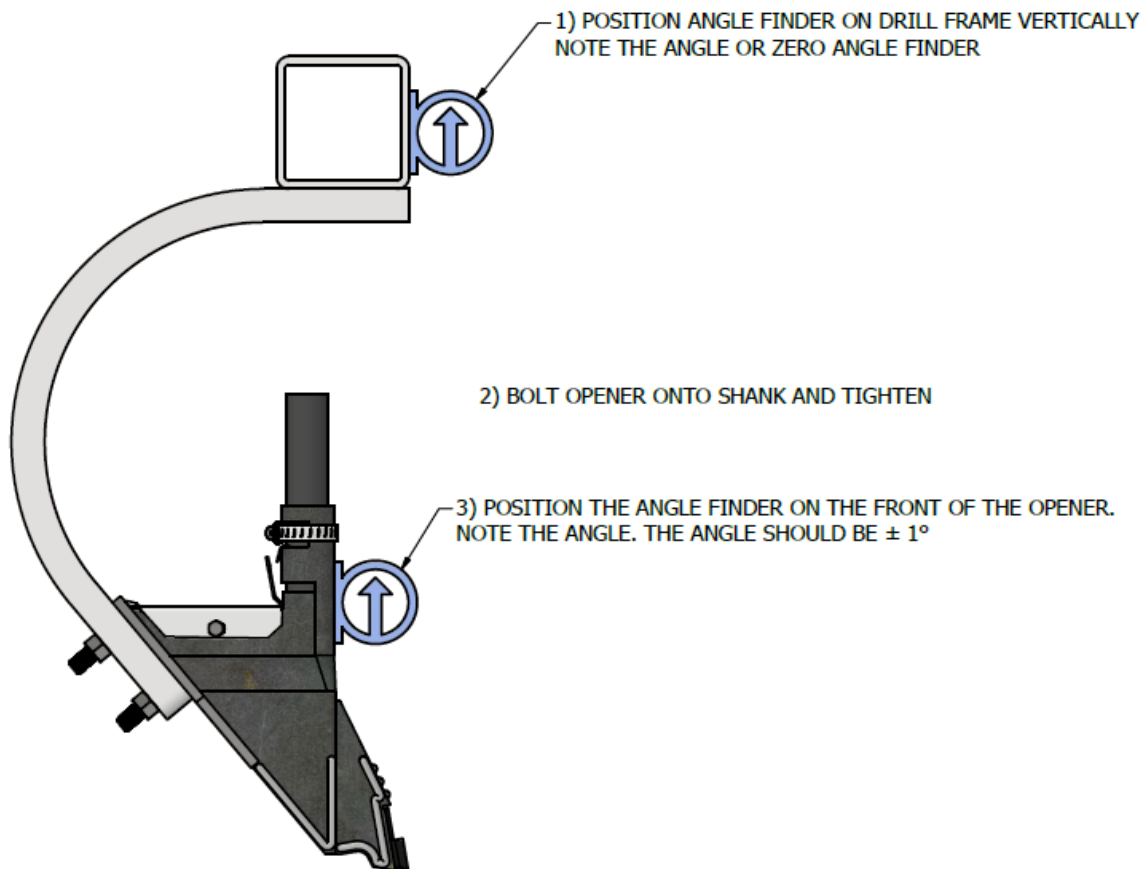
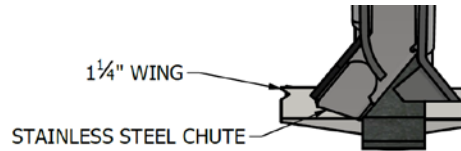
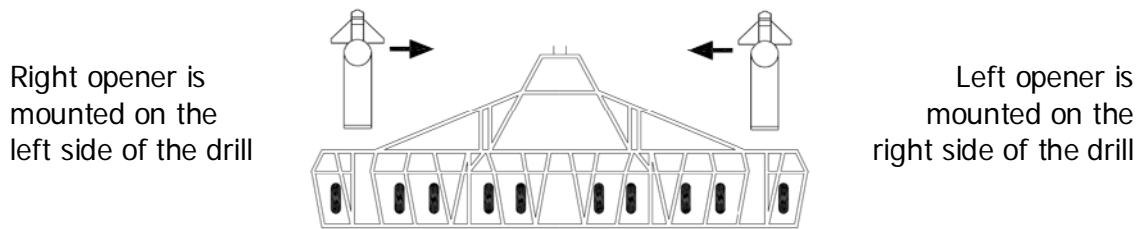

Figure 1: Angle Measurement Procedure
Figure 4: Left opener from the back
Figure 5: Opener orientation
- 1) Bolt openers to shank using the supplied carriage bolts, washers, and nuts, remembering to check the shank angle as described in Figure 1. Install openers with the stainless steel chute oriented to the center of the drill (see Figure 4 on the next page).
Mounting your openers on the correct side of the drill will reduce the chances of plugging while turning with the drill in the ground. A “left” opener will have the chute pointed to the left when viewed from the back shown above in Figure 4. In Figure 5, the arrows represent the orientation of the seed chute.
- 3) Carbide protected wings for side band openers can be purchased through Atom-Jet to weld on to replace broken and worn-out wings. Remember the designation of left and right wings based on the side of the drill shown in Figure 5.